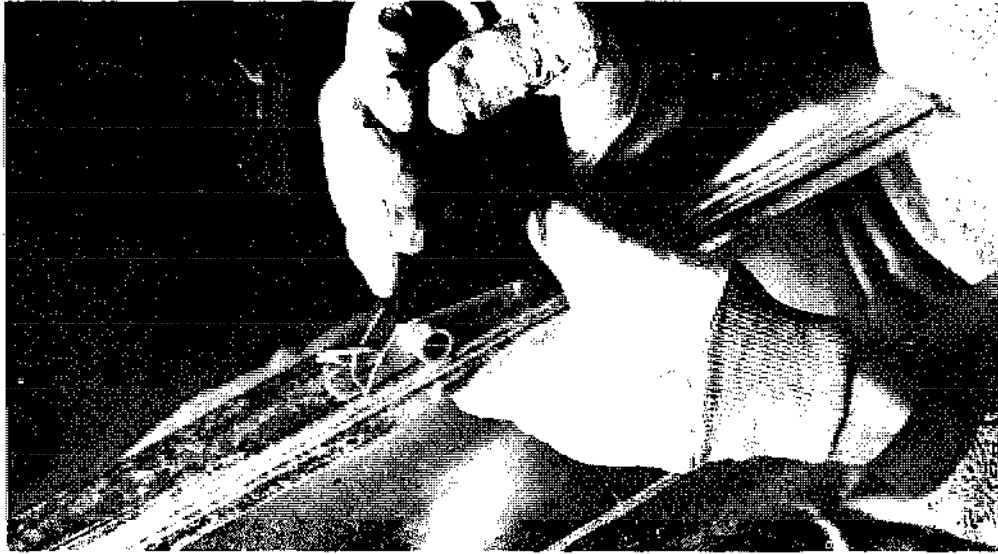

Figure 21.7—Removing the seam of a stovepipe with a Bernz-cutter. This tool does not distort the metal, as conventional tin snips do.
2. Cut off the self-locking seam. The easiest way to do this without distorting the metal is to use a Bernz-cutter, available at most hardware stores (Figure 21.7). (Note: The little turned flap on the other edge of the pipe need not be removed, since it will be on the inside of the adapter.)